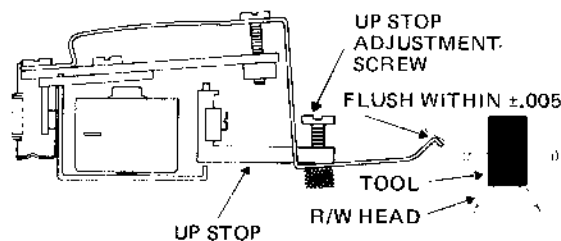

FIGURE 2 HEAD LOAD ACTUATOR UPSTOP ADJUSTMENT
- Adjust up stop on actuator so that bail just touches Head Load Arm or has $.005''$ clearance or lifts Load Arm $.005''$. Reference Figure 2.